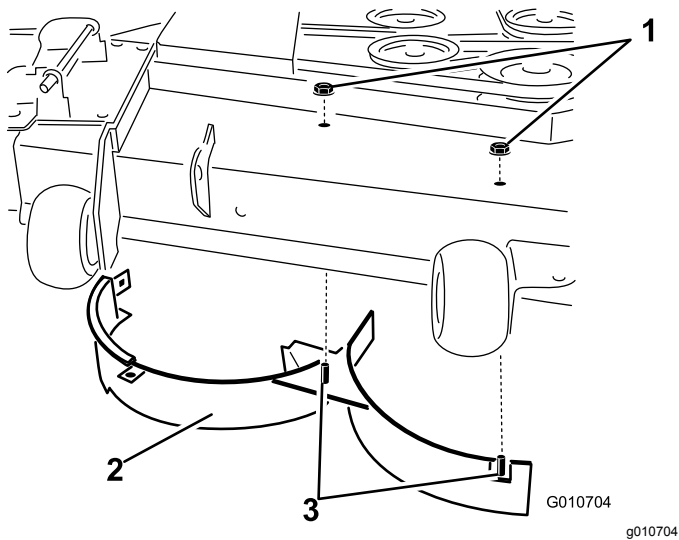

Figure 18
11. Remove the 2 locknuts (5/16 inch) securing the welded posts of the right baffle to the top of the mower deck at center and right of center positions (Figure 18).
12. Remove the carriage bolt and locknut securing the right baffle to the top of the mower deck and remove the right baffle from the mower deck (Figure 18).